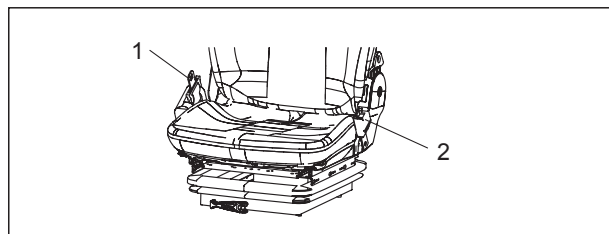

Fig 3-9
Adjust the seat to the best height which does not affect the driving. Completely release the seat belt (1), sit down on the seat, pull out seat belt (1), and buckle up lock catch (2). In order to remove the seat belt, press the button on lock catch (2) to pop up seat belt (1) (see Fig 3-9).